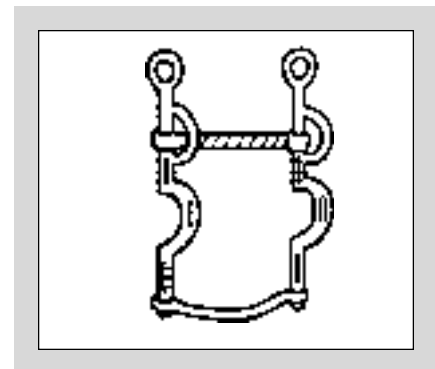

Figure 18. Buxton Bit.
- **Buxton Bit.** Buxton curb bit, ribbed side (see Figure 18). The most elaborate; is used as a full-dress bit.